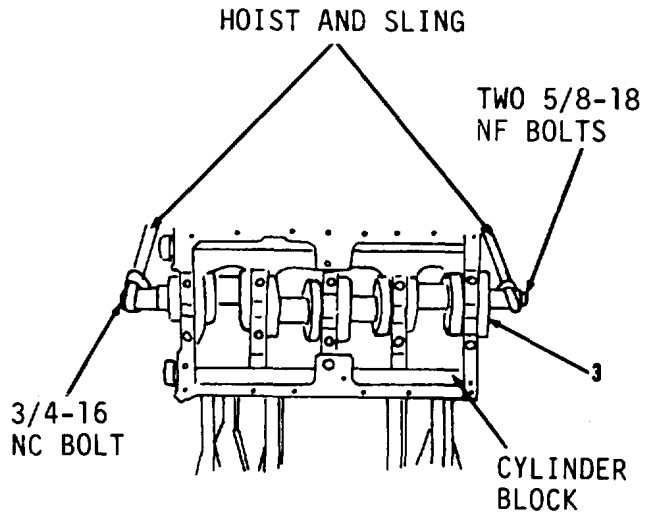

Figure 13-11.
1. Install 3/4-16NC bolt into gear end of crankshaft (Figure 13-11).
2. Install two 5/8-18NF bolts into flywheel end (rear) of crankshaft (3).